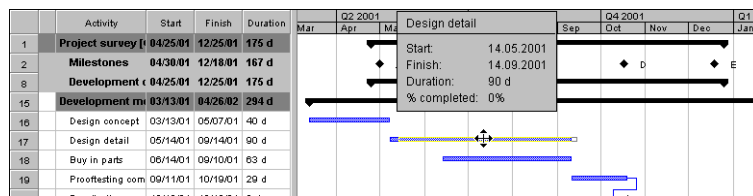

Figure 27: A preview and a data window are shown when the mouse cursor is dragged.
2. Press the left mouse button, hold it down and drag the bar back and forth slightly. A preview bar is attached to the mouse cursor. The preview bar indicates the position to which the activity bar is moved when the mouse button is released. A preview window also displays the move data (Figure 27).